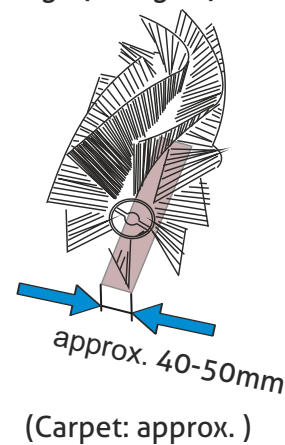

Fig. 58
- **The shape of the sweeping clearance should produce a uniform rectangle (see Fig. 58).**
- As appropriate, repeat the adjustment process with the knurled knob until the desired sweeping clearance is reached. (Ch. 7.6, Fig. 58)